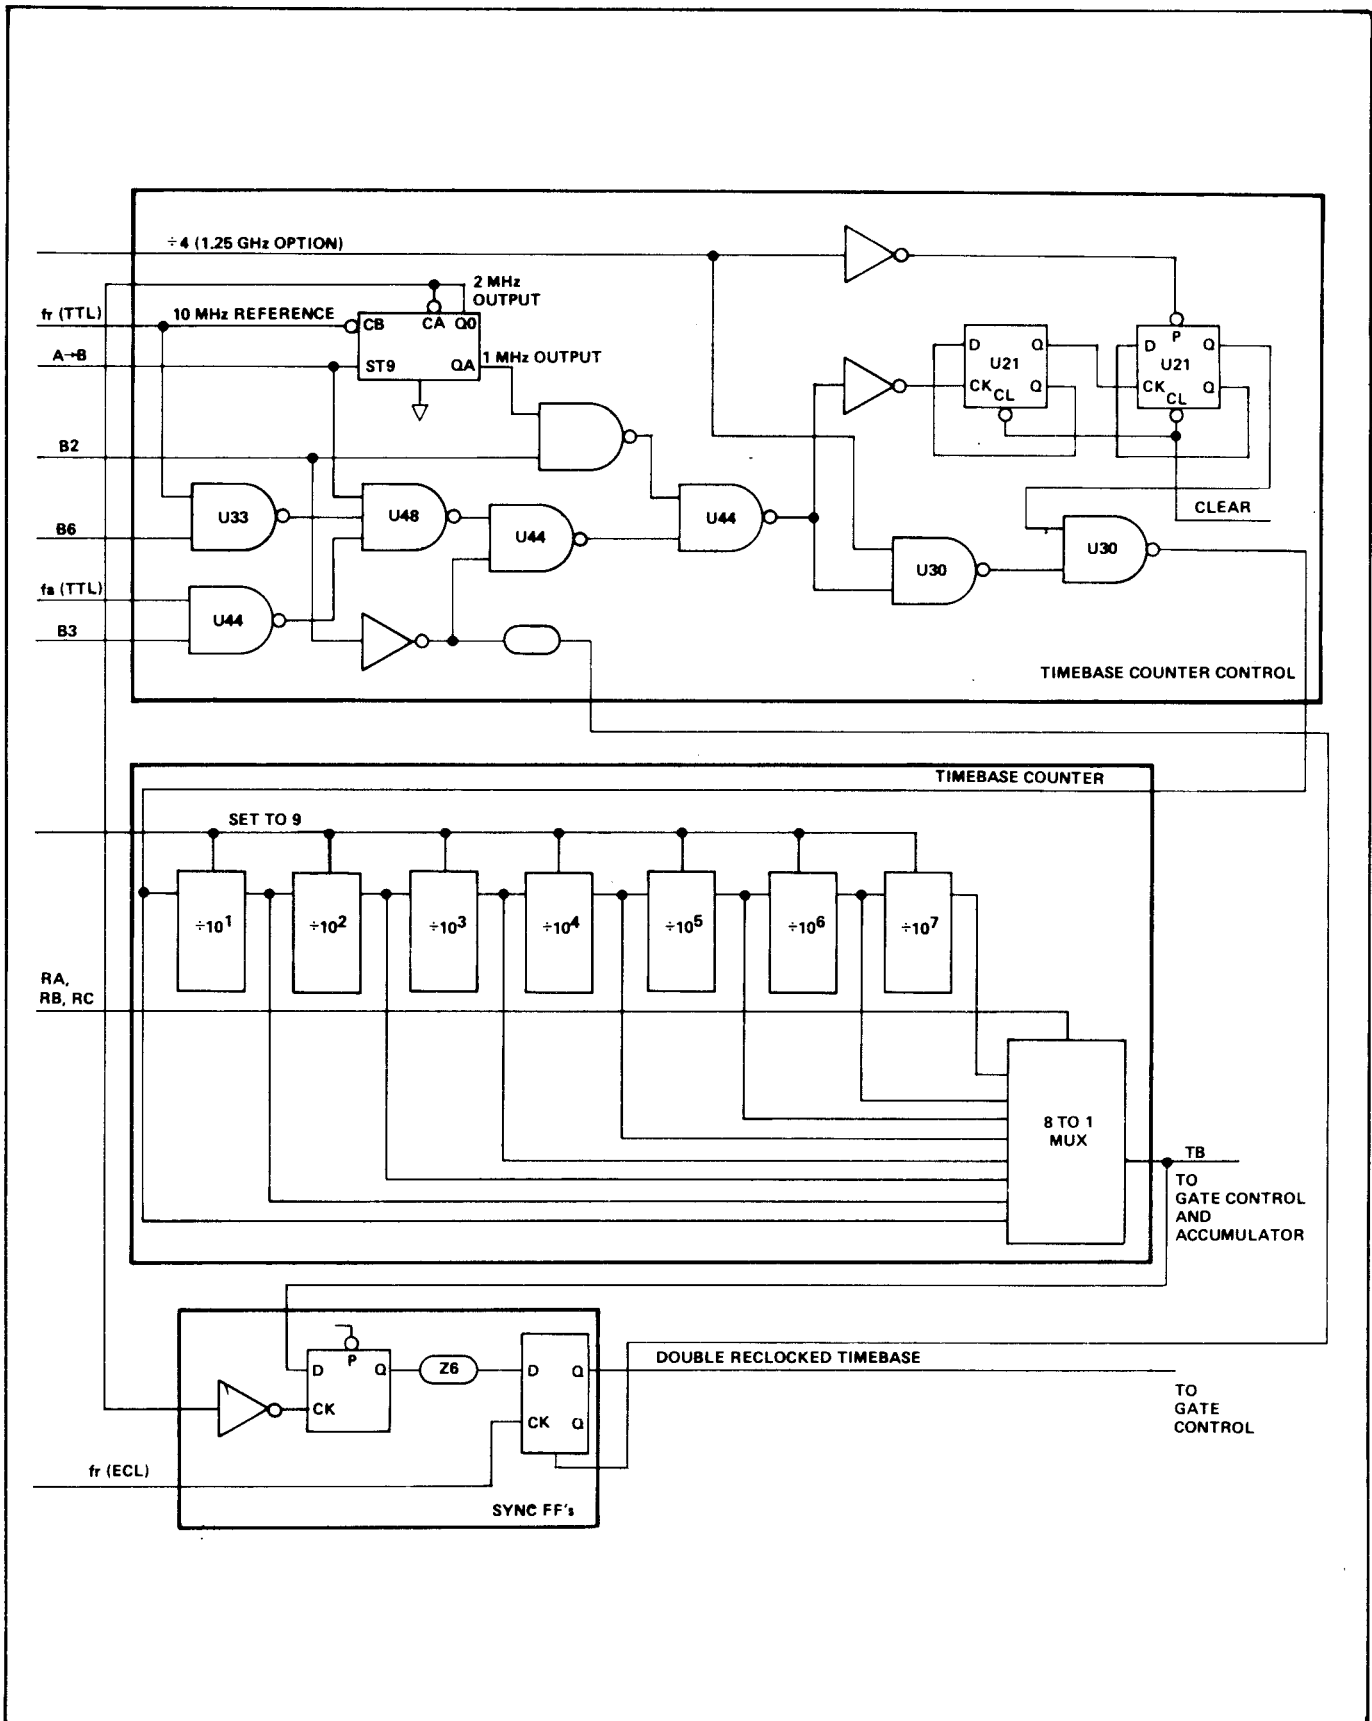

Figure 1.20 - Timebase Simplified Logic Diagram
1.4.9.1 The timebase divides its input signal by the factor selected by the N/RESOLUTION switch or the microprocessor (Model 9514) when the counter is under remote control. The timebase input signals are the 10 MHz reference signal,  $f_a$  (TTL),  $\overline{A \rightarrow B}$ , control signals B2, B3, B6, RA, RB, RC, and  $\div 4$ . The output signal of the timebase is used in the gate control logic and the accumulator. A simplified logic diagram of the timebase is shown in figure 1.20.
1.4.9.3 The 1 MHz signal is selected in the frequency measurement function. The effect is to make the shortest gate time (shortest opening of the gate) or output of the gate that is derived from the timebase 1 microsecond. The 1 MHz can also be divided down to yield a 10-second gate for a .1 Hertz resolution. The 1 MHz input is produced by dividing the 10 MHz reference signal by 10. See figure 1.20. The signal  $\overline{A \rightarrow B}$  is used as an enable to the divide by 10 counter to make the opening of the gate synchronous with the input signal.